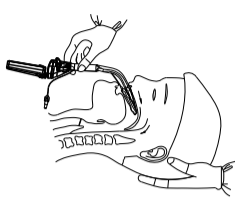

Figure 3.1.2
2. Gently slide the distal tip of the laryngeal mask inward and downward along the trail of "behind upper teeth- surface of hard palate-surface of soft plate-curvature behind the tongue". When inserting, avoid advancing distal tip of laryngeal mask into base of tongue or glottis. Use live video to help determine the position of the distal tip of the laryngeal mask as it advances. See figure 3.1.2 .